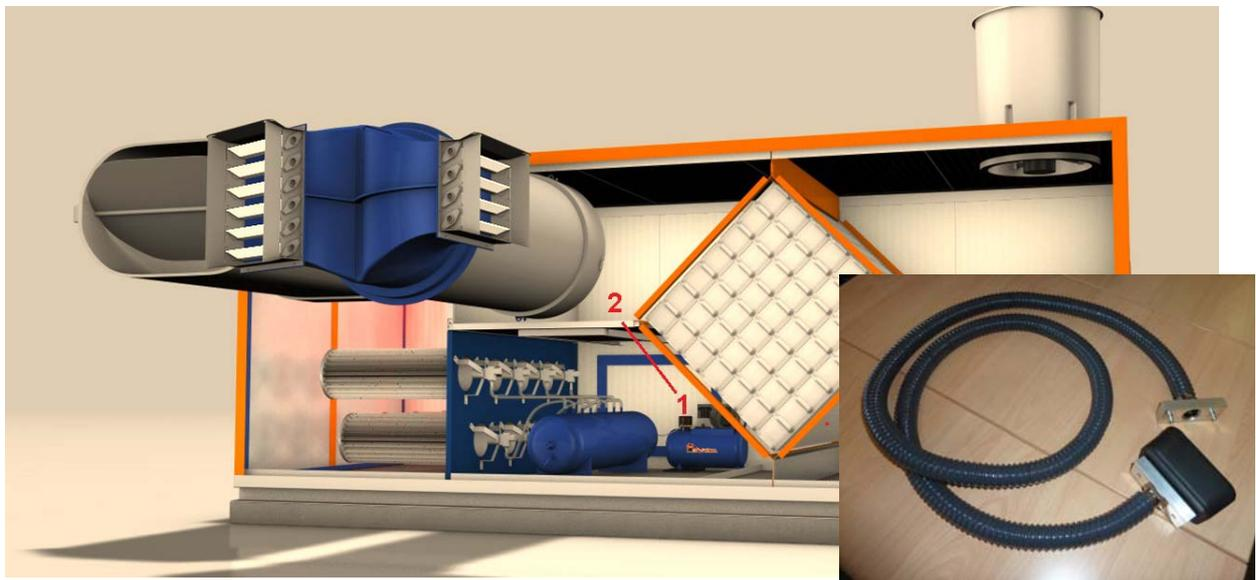

Fig. 1: Assembly site of the compressor suction in the heat exchanger Earny
The suction hose connects the suction (1) of the compressor with the fresh air chamber (2) of the heat exchanger, as shown in figure 1.